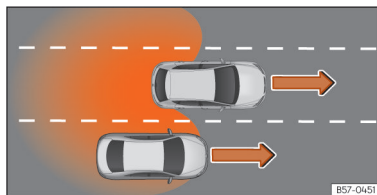

Fig. 152 Overtaking in the central lane and then joining the right lane.
- When overtaking another vehicle »» **Fig. 152** with a speed difference of approx. 10 km/h (6 mph). If the vehicle is passing at a considerably higher speed, no indication will be displayed.